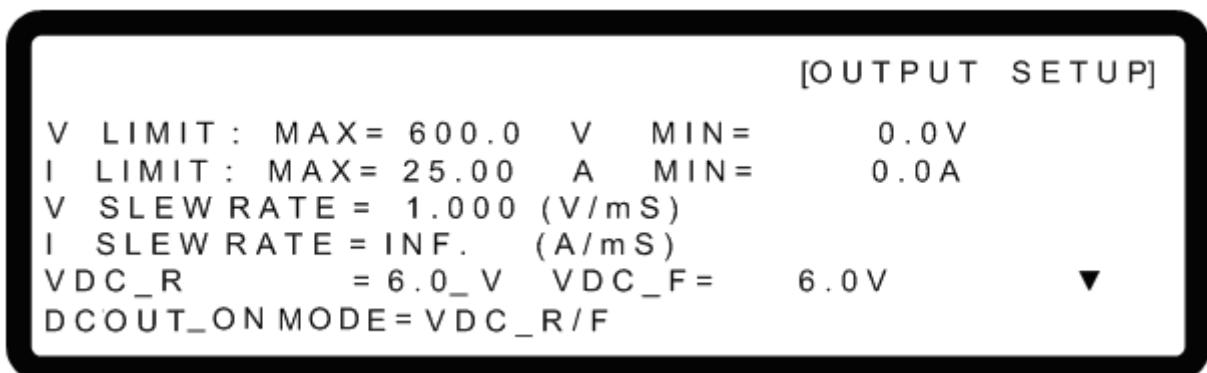

Figure 3-25
- Method 1: Use the “”, “”, “”, “” keys to move the cursor to the column to be set as shown in Figure 3-25.